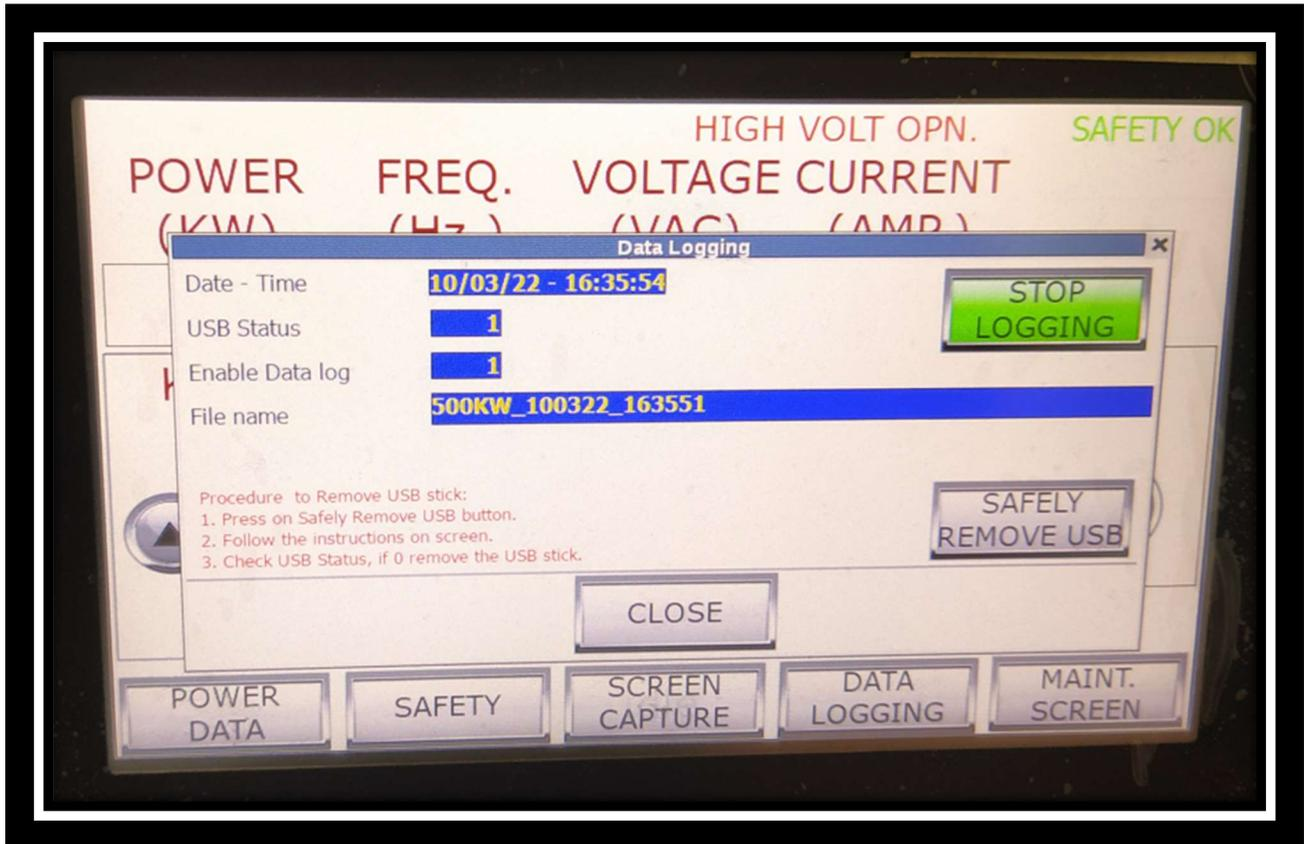

Figure 7 Data logging
- 2) Click <DATA LOGGING> button, will show following screen (see figure 7),